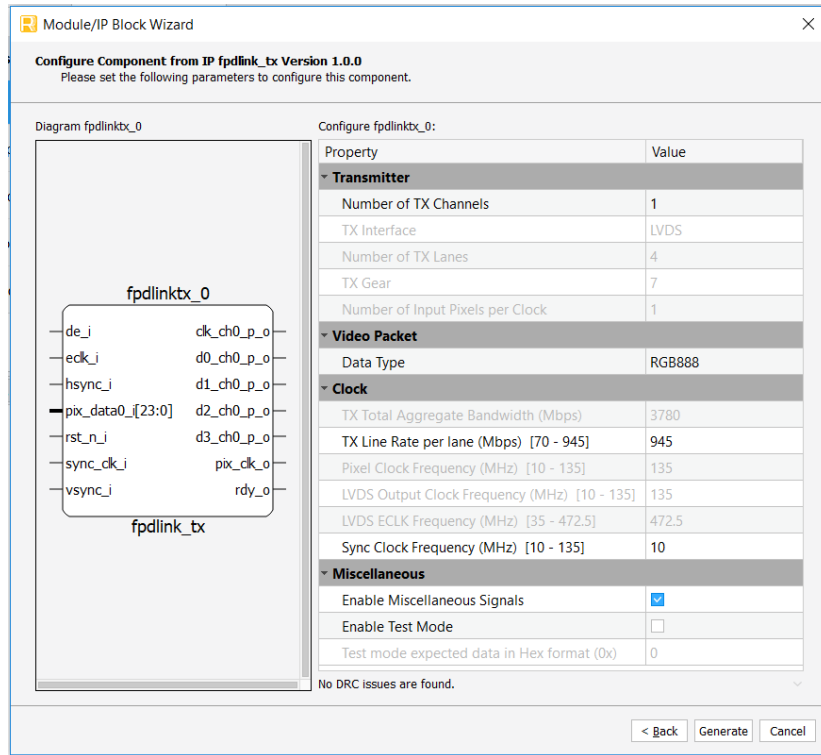

Figure 3.2. Configure User Interface of selected OpenLDI/FPD-LINK/LVDS Transmitter IP Core
4. In the module’s dialog box of the **Module/IP Block Wizard** window, customize the selected OpenLDI/FPD-LINK/LVDS Transmitter IP Core using drop-down menus and check boxes. As a sample configuration, see Figure 3.2. For configuration options, see the Attribute Summary section.
5. Click **Generate**. The **Check Generating Result** dialog box opens, showing design block messages and results. See Figure 3.2.